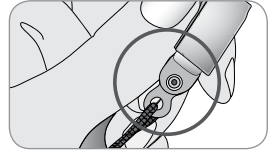

Fig. 37
3. Clip lock is engaged (Fig. 37).